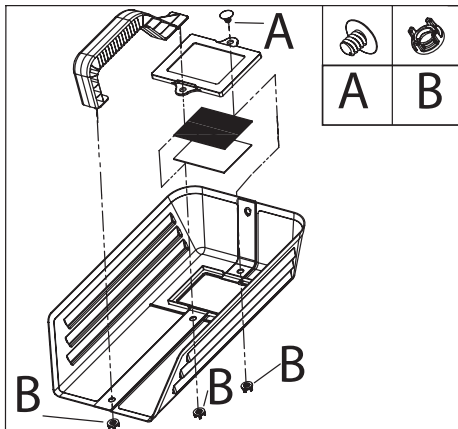

Fig.2
- In order to assemble the hand shield (Fig.2); insert the plastic protection shield in the special opening fixing it with the two screws. Place the handle fixing it in the slit of the protection mask, push it and rotate it by 90° until it enters into the hole inside the protection mask.
- When using disposable gas cylinders (S), remove the protective cap from the top of the gas cylinder and screw the gas regulator (T) rotating it clockwise and fixing it tightly (do not force).
- Connect the gas hose (fig. 2,Q) to the regulator (insert it completely). Note: To disconnect the gas hose from the regulator hold